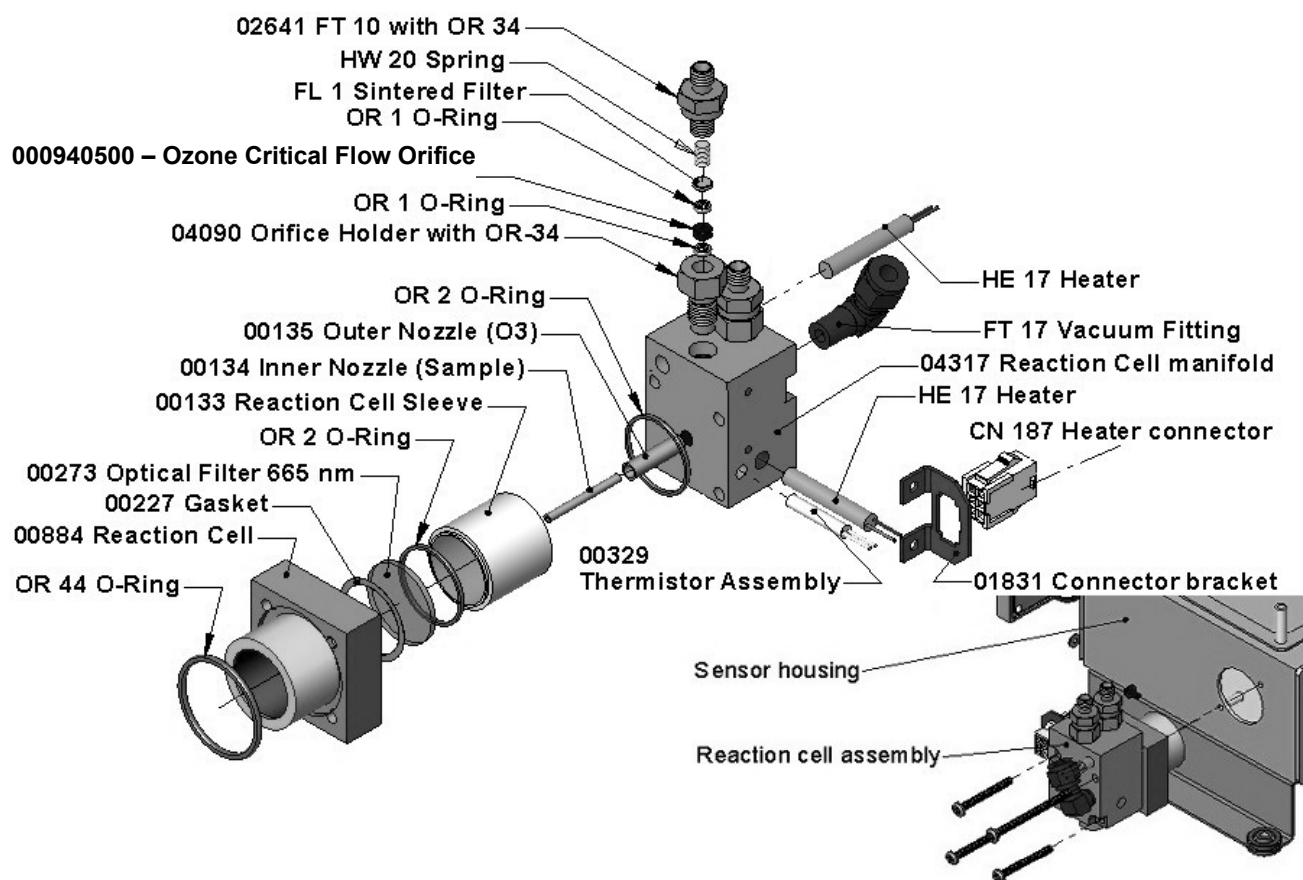
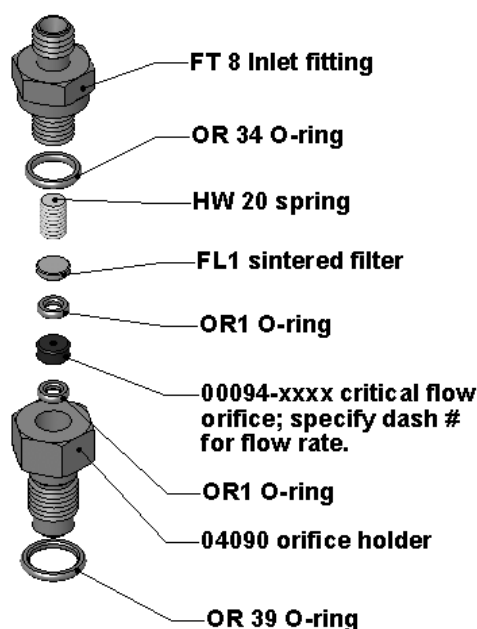

Figure 9-6: Reaction Cell Assembly
Figure 9-7: Critical Flow Orifice Assembly
1. Turn off the instrument power and vacuum pump. Refer to the Figure 9-6 for the following procedure.
3. Remove four screws holding the reaction cell to the PMT housing and lift the cell and manifold out as shown in the inset of Figure 9-6.
There are several critical flow orifices installed in the M200EH/EM, Figure 9-6 shows one of the two most important orifice assemblies, located on the reaction cell. Refer to Section 10.3.3 for a detailed description on functionality and locations. Despite the fact that these flow restrictors are protected by sintered stainless steel filters, they can, on occasion, clog up, particularly if the instrument is operated without sample filter or in an environment with very fine, sub-micron particle-size dust.
1. Turn off power to the instrument and vacuum pump. Remove the analyzer cover and locate the reaction cell (Figure 9-6, Figure 11- and Figure 3-4).
3. For orifices on the reaction cell (Figure 9-6): Unscrew the orifice holder with a 9/16" wrench. This part holds all components of the critical flow assembly as shown in Figure 9-7. Appendix B contains a list of spare part numbers.
4. For orifices in the vacuum manifold: the assembly is similar to the one shown in Figure 9-7, but without the orifice holder, part number 04090, and bottom O-ring OR34 and with an NPT fitting in place of the FT 10 fitting. After taking off the connecting tube, unscrew the NPT fitting.
7. Re-assemble the flow control assembly with new the parts (see Appendix B for part number or replacement kit) as shown in Figure 9-7 and re-connect them to the reaction cell manifold or the vacuum manifold.